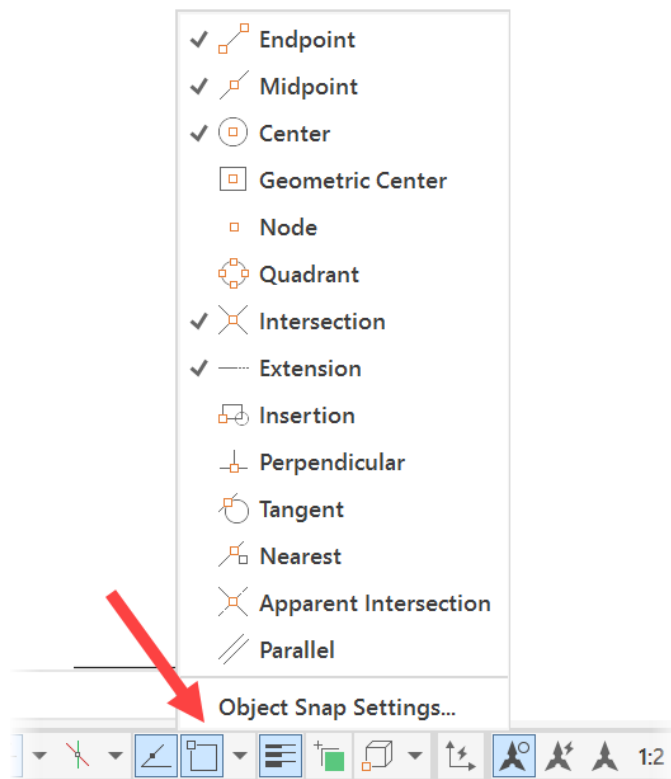

Figure 5.13: The flyout Object Snaps (OSNAP) menu on the status bar, displayed after clicking on the Osnap icon (arrowed)
The **OSNAP** drafting setting is displayed on the status bar, as shown in *Figure 5.13*:
The set of running Osnaps shown checked in *Figure 5.13* should have you in good stead for most of your drafting and modeling tasks. However, there may be times when alternative Osnaps might need to be running. For example, a circle has various Osnaps. The most obvious is **Center**, but you might also use the **Quadrant** Osnap or the **Tangent** Osnap when working with circle geometry.
8. Click on the **Object Snaps** flyout menu on the status bar, as shown in *Figure 5.13*.